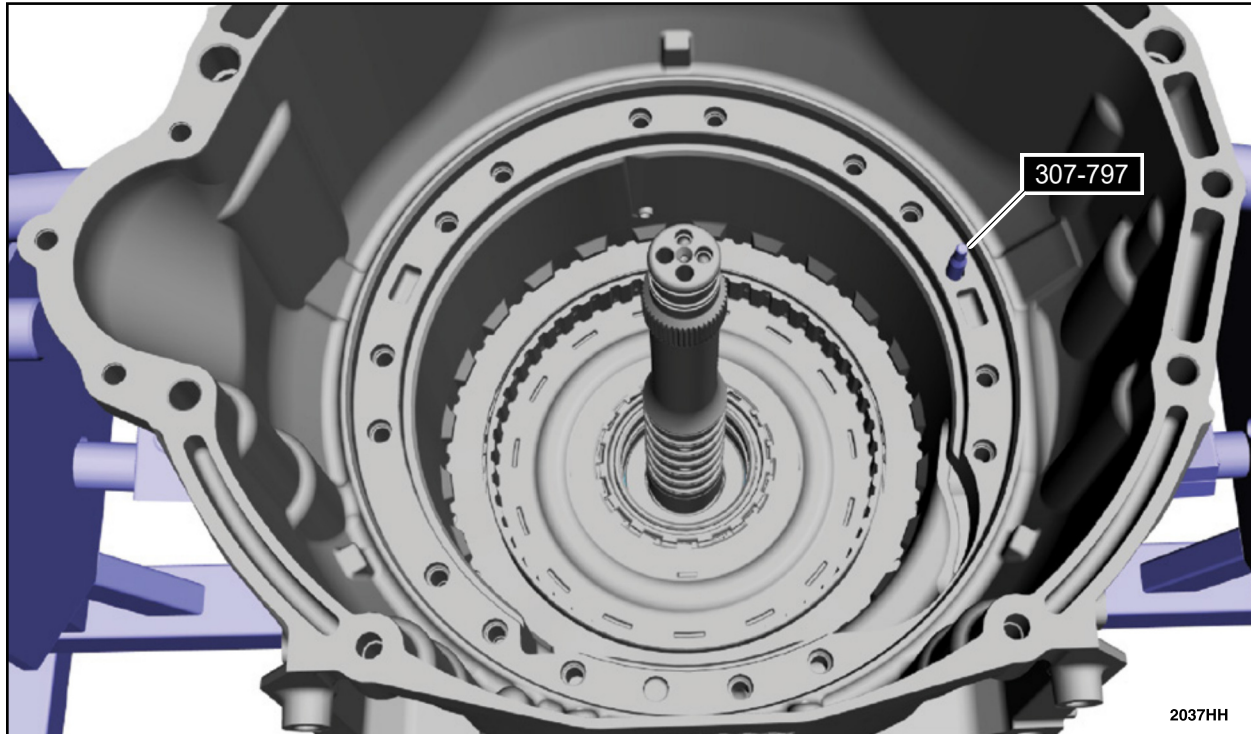

FIGURE 27
30. Install special tool 307-797 in the location shown. See Figure 27.